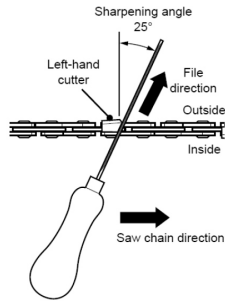

Fig. 28b
6). File at an angle perpendicular to the bar, and at an angle of 25° to the direction of travel. (See Fig. 28b)